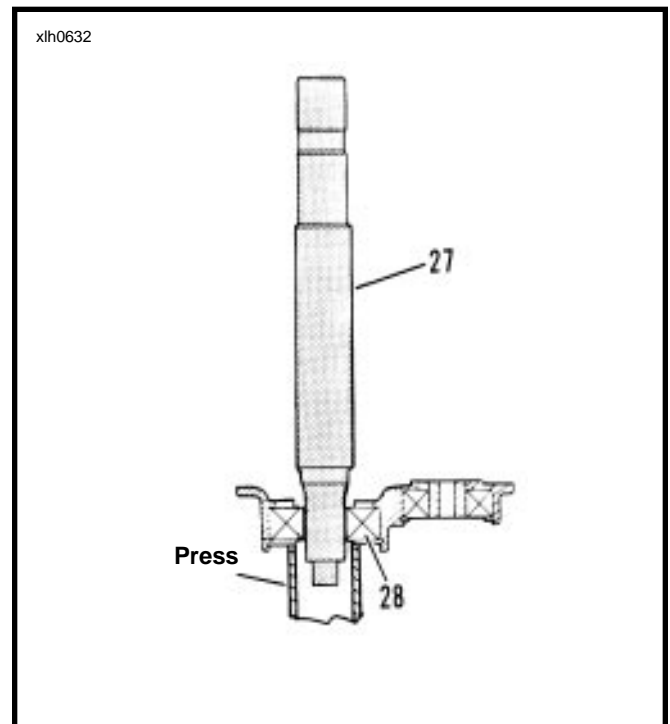

Figure 6-28.
1. Find a section of pipe that matches the inner race of bearing (28). See Figure 6-28. Place the door assembly, outside downward, on a press with the inner race of bearing (28) resting on the section of pipe. Insert the splined end of the shaft through the bearing and hold in a vertical position. Press the shaft into the bearing until the bearing bottoms against the shaft shoulder.